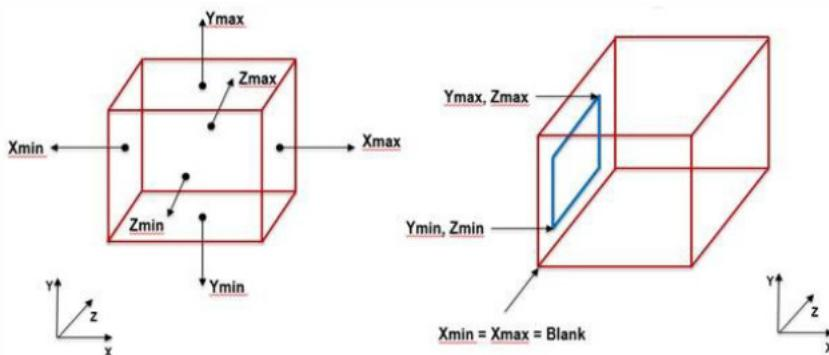

Figure 9-1 MESH BOX boundary
7. XMIN, XMAX, YMIN, etc are only used when both BCID and DIR are blank. The XMIN,YMIN option defines an area on the MESH BOX boundary as shown in Figure 9-1. If neither the MIN nor MAX value has been set the default value is respectively -1E+20 and 1e+20 for the MIN and MAX value. If the MIN value has been set the default value of the MAX value is the MIN value.